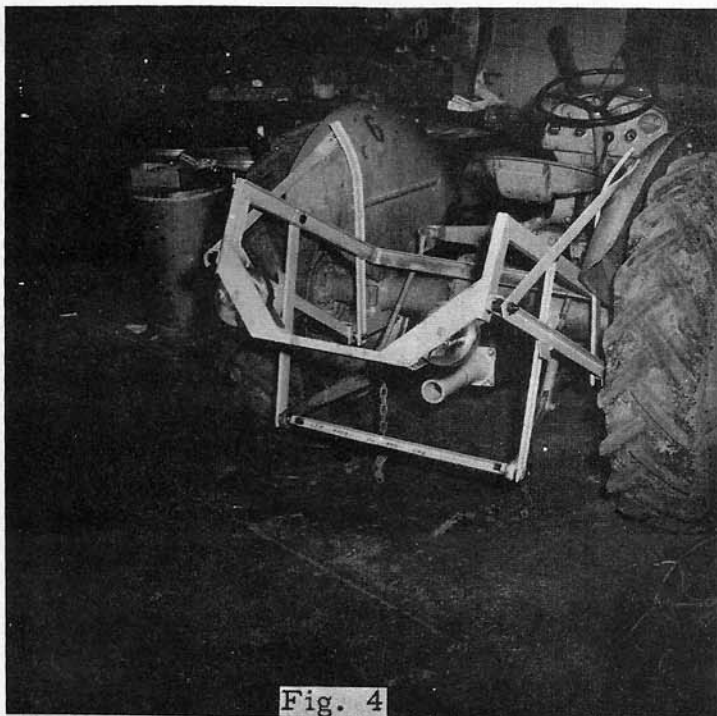

Fig. 4
H. ASSEMBLING FRAME NO. 613 TO THE A-FRAME FIGS. 4 & 6.